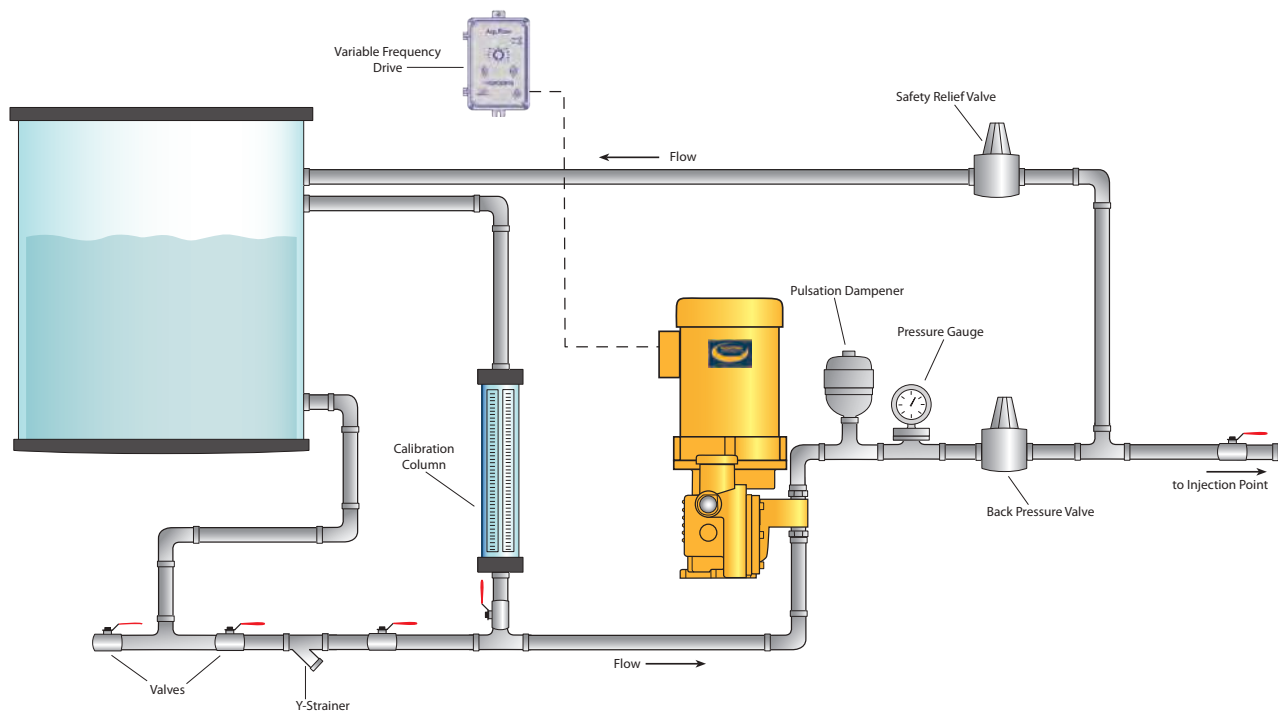

Figure 3. Typical Metering Pump Installation
6. Shut-off valves and unions installed in the suction and discharge pipelines will facilitate pump servicing. Please refer to Figure 3 for a typical installation.
The internal relief valve is designed only to protect the pump and drive components in the event the piping system is restricted or blocked while the pump is in operation. If there are other sources of pressure or hydraulically isolated sections of piping in the system, an external safety relief valve must be installed in the pump discharge line as close to the pump as possible, and BEFORE any isolation valve. The safety relief valve should be piped back to the suction tank or safety drain as shown in Figure 3.
2. Check to be certain that accessory components and fittings have been installed in the proper orientation and sequence as shown in Figure 3.
Pump calibration can be accomplished by measuring the decrease in liquid level pumped from a calibration column installed in the suction line as shown in Figure 3 on page 9. Follow the calibration instructions provided by the cylinder manufacturer.